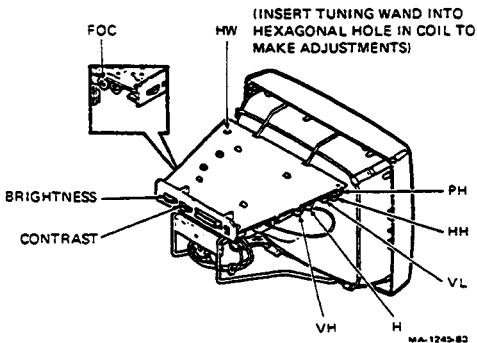

Figure 3-1 Video Adjustment Locations
Figure 3-1 shows the locations for most adjustments.
1. Place your terminal as shown in Figure 3-1. Make sure your monitor is on a nonconductive surface.
2. Increase both the brightness and contrast to maximum (Figure 3-1).
3.3.2.2 Contrast – Set the contrast control (Figure 3-1) for the desired screen intensity.
2. If necessary, adjust the vertical linearity (VL) control (Figure 3-1) until all characters are the same height.
2. Adjust the focus (FO) control (Figure 3-1) for the best overall character presentation, if necessary.
2. If necessary, adjust the vertical hold (VH) control (Figure 3-1) to stabilize the screen display.
2. If necessary, adjust the horizontal hold (HH) control (Figure 3-1) to stabilize the display.
4. Compare the measurements in steps 2 and 3. If the difference between the two measurements is greater than 6 mm, adjust the horizontal centering (PH) control (Figure 3-1).
10. The video display width must be within the range of 200 to 210 mm. If necessary, adjust the horizontal width (HW) control (Figure 3-1) until the video display width is within the range specified.
11. Adjust the height (H) control if necessary to improve the appearance of the circle.